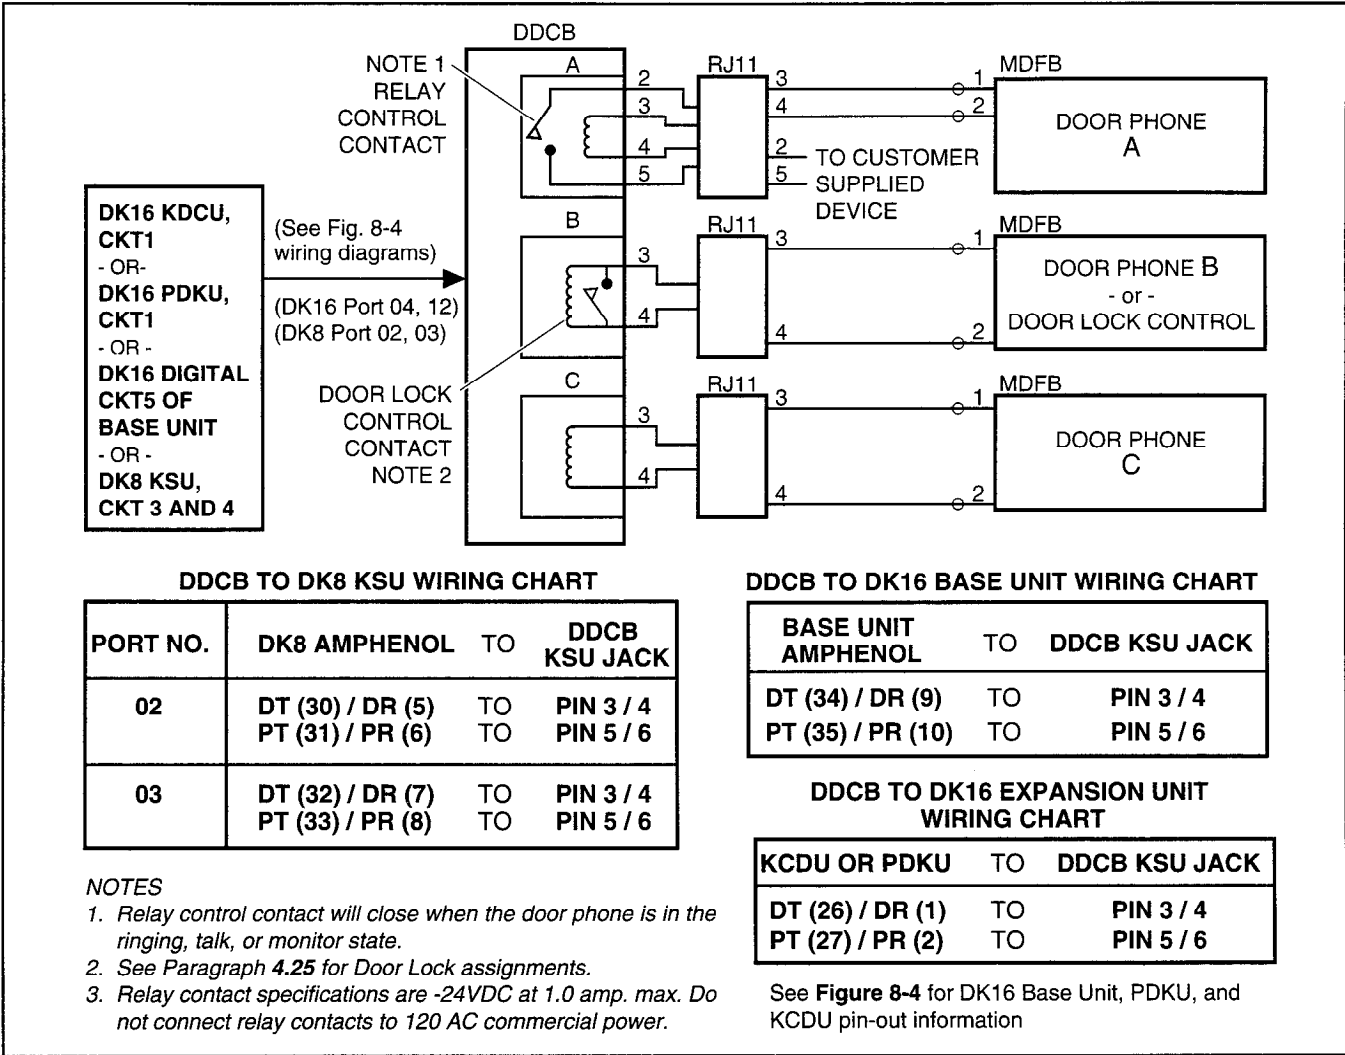

FIGURE 7-9
- 1) On DK8, connect applicable digital telephone circuit (Logical Port 02 or 03) to the DDCB KSU modular jack (see Figure 7-9 and Figure 8-4).
- 2) On DK16, connect the applicable digital telephone circuit (Logical Port 04 or 12) to the DDCB HKSU modular jack (see Figure 7-9 and Figure 8-4).